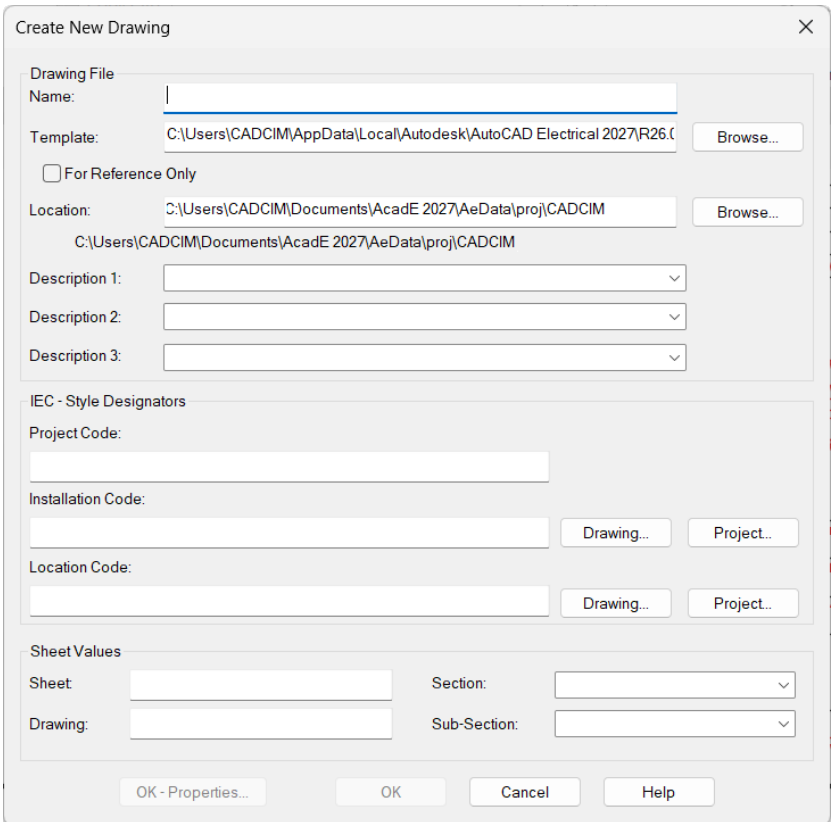

Figure 2-64 The *Create New Drawing* dialog box
1. In the **PROJECT MANAGER**, choose the **New Drawing** button; the **Create New Drawing** dialog box is displayed, as shown in Figure 2-64.